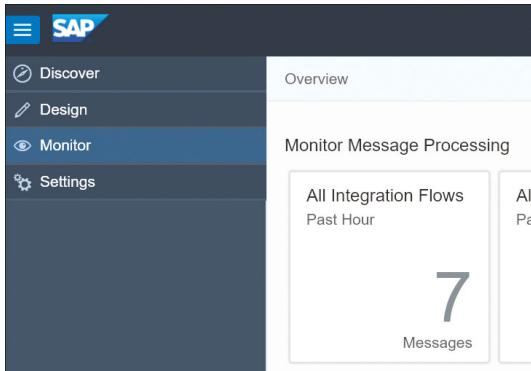

Figure 2.44 Monitor Message Processing Tile in the Monitoring Tab
2. To check for the message that you've just sent, select a tile with suitable filter criteria under **Monitor Message Processing** (see Figure 2.44).